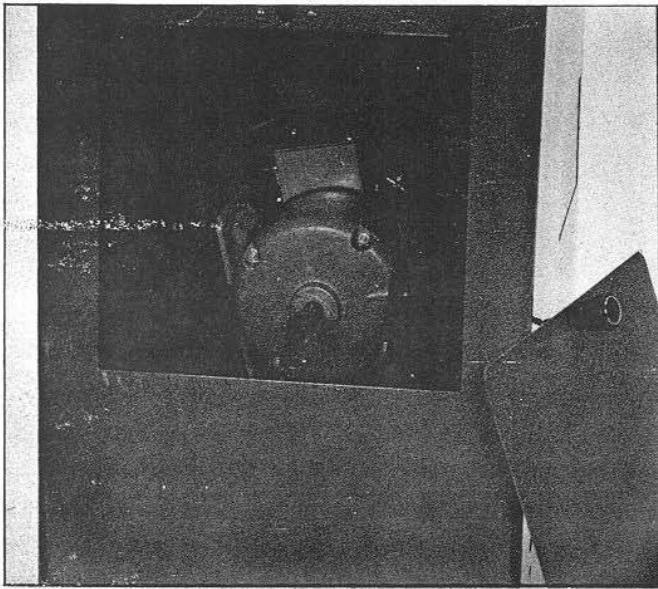

Fig. 3
If you purchased your band saw complete with stand and electricals factory mounted and wired, as shown in Fig. 2, it is necessary to remove the small knockout (A) located on top of the stand. The motor plate, motor, motor pulley and switch are completely assembled to the stand, as shown in Fig. 2 and Fig. 3.